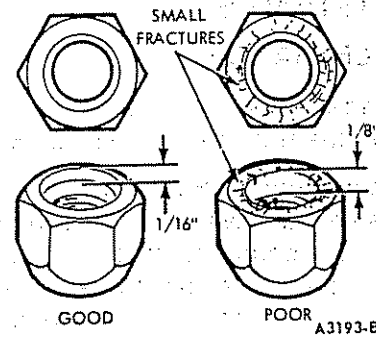

FIG. 37 Inspection of Rocker Arm Stud Nut
The positive stop rocker arm stud eliminates the necessity of adjusting the valve clearance. However, to obtain the specified valve clearance, it is important that all valve components be in a serviceable condition and installed and torqued properly. **Each stud nut should be removed and inspected for conditions shown in Figure 37 when adjusting valve clearance.**
With the crankshaft in the positions designated in Steps 1, 2 and 3, remove and inspect the stud nut for conditions shown in Figure 37. Install and turn the stud nut clockwise until it contacts the stop. Tighten the nut to specifications.
The positive stop rocker arm stud eliminates the necessity of adjusting the valve clearance. However, to obtain the specified valve lash, it is important that all valve components be in a serviceable condition and installed and torqued properly. **Each stud nut should be removed and inspected for conditions shown in Figure 37 when adjusting valve clearance.**
6. With the crankshaft in the positions designated in Steps 2, 3 and 4, remove the stud nut and inspect it for conditions shown in Figure 37.
5. Apply Lubriplate or equivalent to the rocker arms and fulcrum seats. Inspect the stud nuts for conditions shown in Figure 37. Install the valve rocker arms, fulcrum seats and stud nuts.